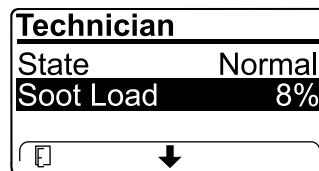

Figure 37
- View the soot load which is measured as the percentage of soot in the DPF (Figure 37); refer to the soot-load table.